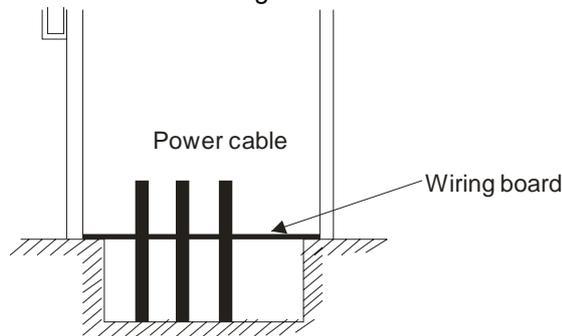

Figure 2-3
(B) Cooling air must not be allowed to enter the cabinet through the base board via the cable trenches. To ensure the cabinet's protection rating, please select Delta's wiring board. If the customer's own wiring board is used, please make sure to check its protection rating, and confirm that it complies with fire safety and EMC requirements. If the cabinet is damaged due to customer's own wiring board, the customer shall be responsible for any resulting service fees. See figure 2-3.